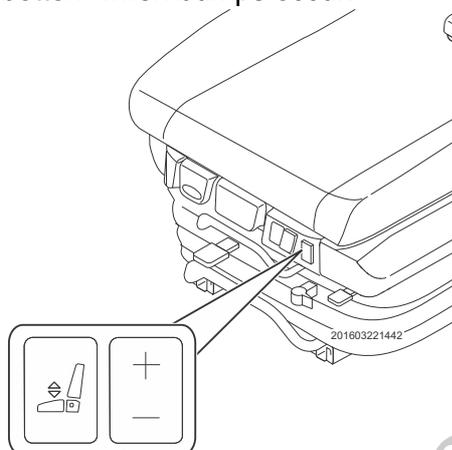

Fig. 55 Adjusting the operator weight and seat height
- 3 Push the switch (Fig. 55) down or up to set the desired seat height and the desired operator weight.